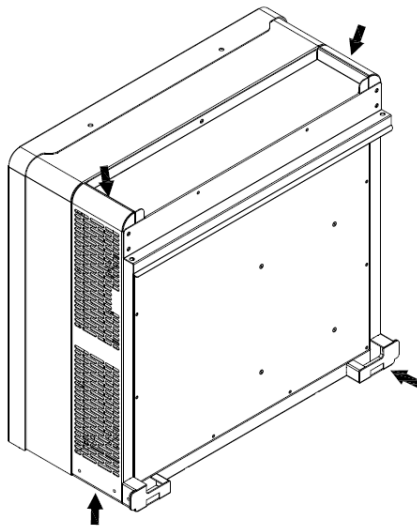

Figure 3-10 Grab Handle Position
Step 2 Hang the inverter onto the mounting bracket as shown in Figure 3-9 and Figure 3-10:
- (b) Manual mounting: At least two people are required to safely lift the inverter by the grab handle positions marked in Figure 3-10 and mount it onto the bracket.